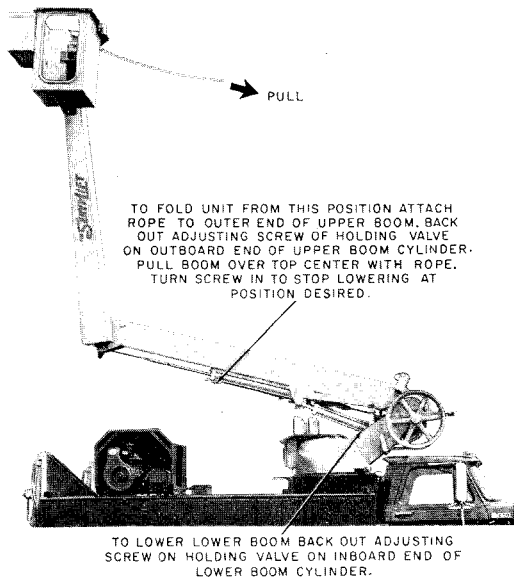

Fig. 12—Emergency Method of Lowering Booms—Upper Boom Past Top Center
- (b) If the booms are in the positions shown in Fig. 12, use a rope to pull the upper boom past top center.